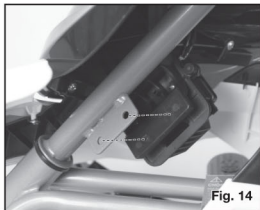

Fig. 14
17. To Assemble the front nose to the steering column, align the Front nose mount^⑧ to the Steering column^① (see Fig. 14).